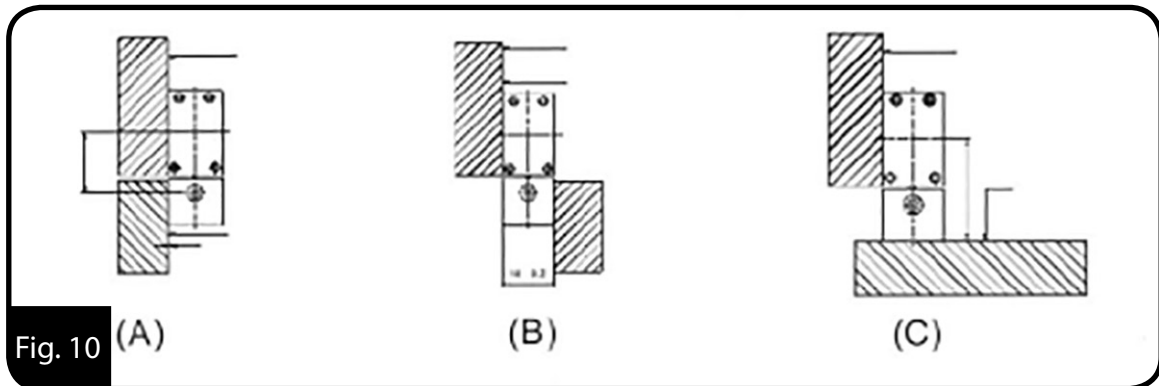

Fig. 10
- b) If the mounting surfaces are perpendicular to each other (i.e. As per shown in figure C), the squareness of these two mounting surfaces must be less than 0.1mm. (Fig. 10)